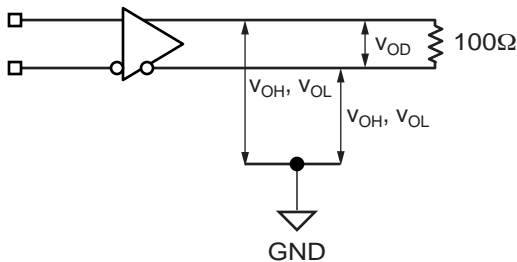

Figure 3. LVDS Differential Measurement
**Note 7.** Measured as per Figure 3,  $100\Omega$  across Q and /Q outputs.